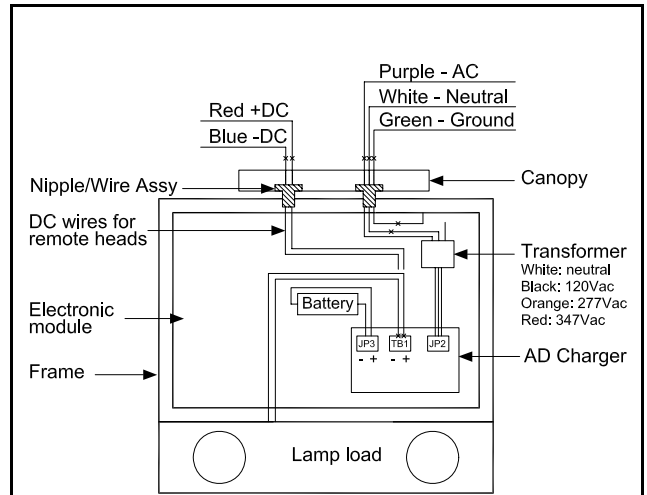

Figure 7
- Electrical connections:** Using the sealed AC nipple/wire assembly (3 wires), connect one end to the transformer leads, inside the enclosure, and the other end, to AC line voltage inside the junction box. Connect the white lead to neutral and the green lead to ground. Connect the purple lead to AC line voltage and to appropriate transformer lead (See fig. 7 for color code). Unused primary wire must be insulated to prevent shorting.
For models with DC remote capacity, the sealed DC nipple/wire assembly (2 wires) will also need to be installed. One end connects to the AD charger terminal block, inside the enclosure, and the other end to DC output inside the junction box. Connect the red lead to positive, and the blue lead to the negative of the remote DC output (See fig. 7).